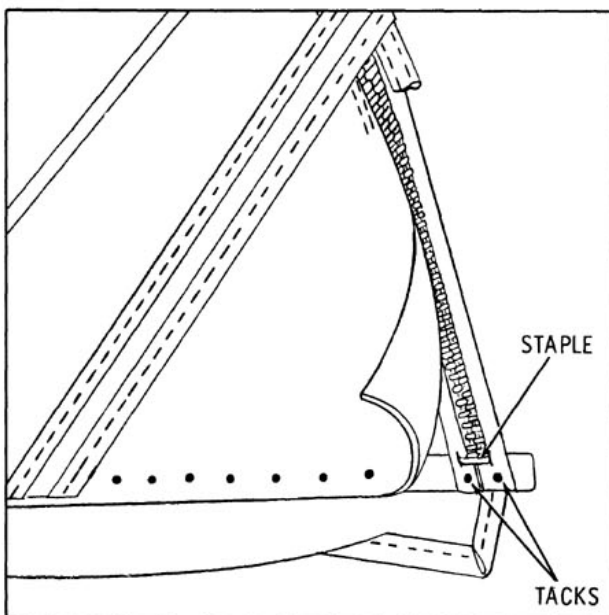

Fig. 16-150 Sealing Rear Quarter Trim Stick
11. Staple both sections of zipper tape together. Staples will aid in preventing zipper scoops from disengaging and also serve as a stop for the slide fastener. (Fig. 16-150)
13. Tack zipper tape to rear quarter trim stick. (Fig. 16-150) Zipper tape should not be pulled taut as zipper teeth may show through top material after top has been properly installed.